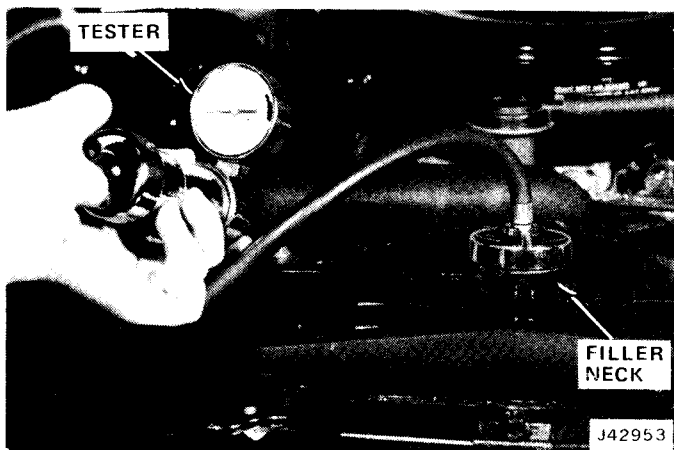

Fig. 2-8 Cooling System Pressure Test
- (1) Carefully remove radiator pressure cap from filler neck and check coolant level.
- (2) Wipe inside of filler neck and examine lower internal sealing seat for nicks, dirt, and solder bumps.
- (3) Inspect overflow tube for dents or internal obstruction. Run a wire through tube to be sure it is clear.
- (4) Inspect cams on outside of filler neck. If cams are bent, seating of pressure cap valve and tester seal will be affected. Bent cams can be reformed if done carefully.
- (5) Attach pressure tester to filler neck (fig. 2-8). **DO NOT FORCE.**